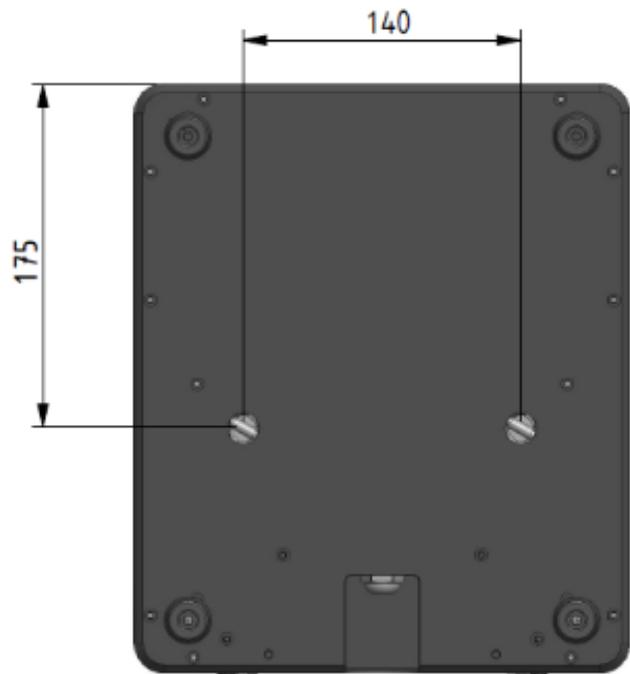

Figure 3. Receptacles for camlock fasteners
See Figure 3. Two receptacles for camlock quick-release fasteners are provided in the base of the Sentinel to allow secure fastening to the surface that the Sentinel is mounted on as well as fast installation and removal. The receptacles are spaced 140 mm (5.51 in.) apart and 175 mm (2.95 in.) from the front of the base.
1. Drill suitably dimensioned holes in the mounting surface with reference to Figure 3.